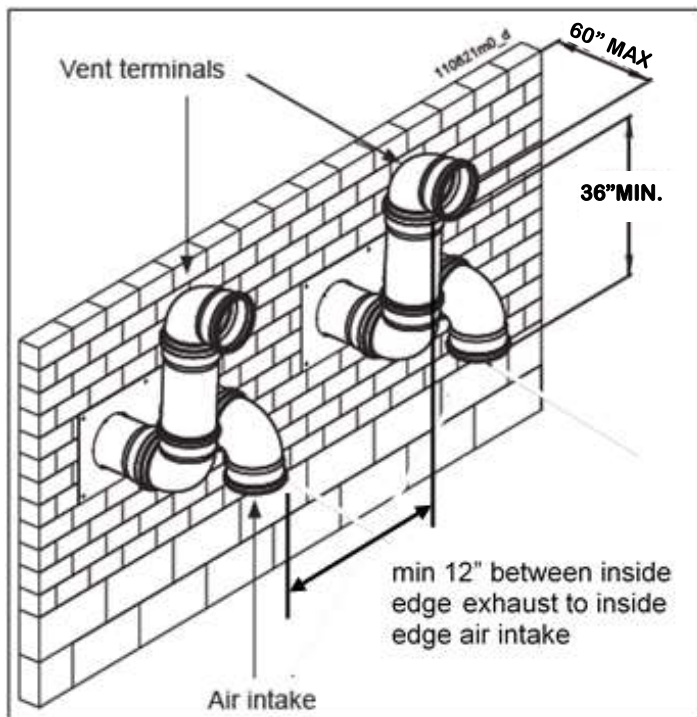

Figure 12.11
1. When terminating multiple boiler / water heaters, terminate each vent/air connection as shown in figure 12.11 (below).